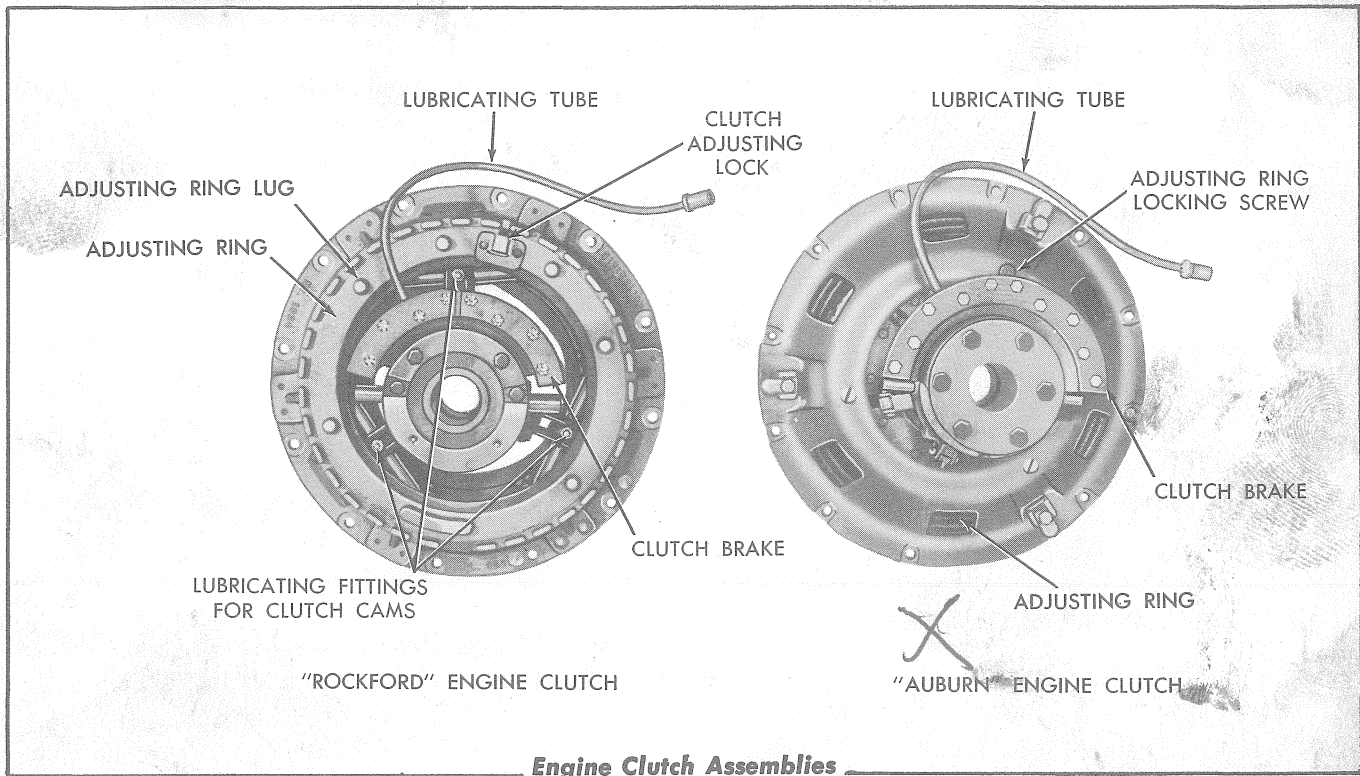

FIG. 47
- b. With the clutch disengaged, crank the engine with the starter until the clutch adjusting lock (Figs. 47 and 49) may be reached through the inspection hole.
- b. Disengage the clutch and crank the engine with the starter until the clutch adjusting ring locking screw (Fig. 47) may be reached through the inspection hole. NOTE: The adjusting ring locking screw is the one having a hex head.